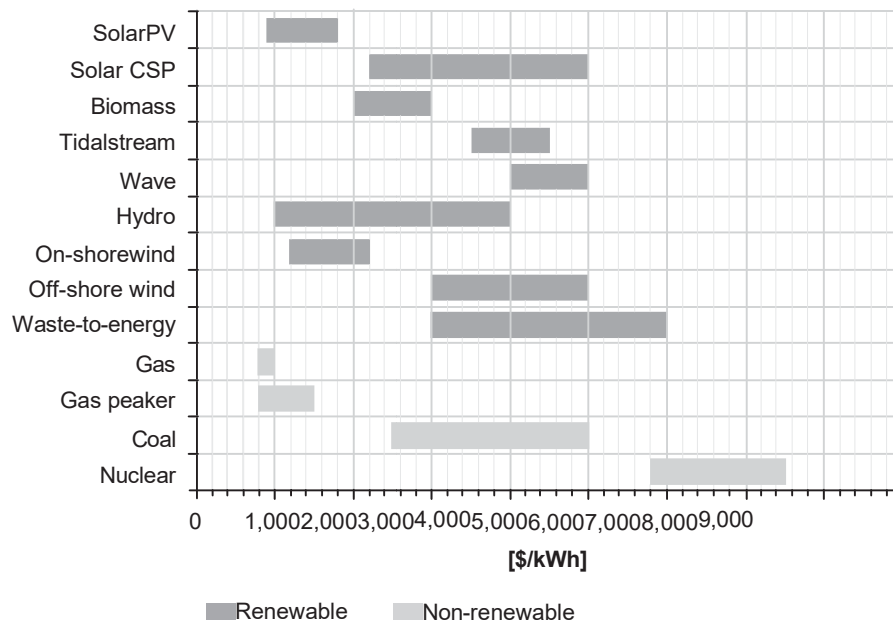

Fig.1.11.1 Capital cost of energy by technology
- Fig. 1.11.1 shows the capital cost of different forms and technologies of energy with its sensitivity range.